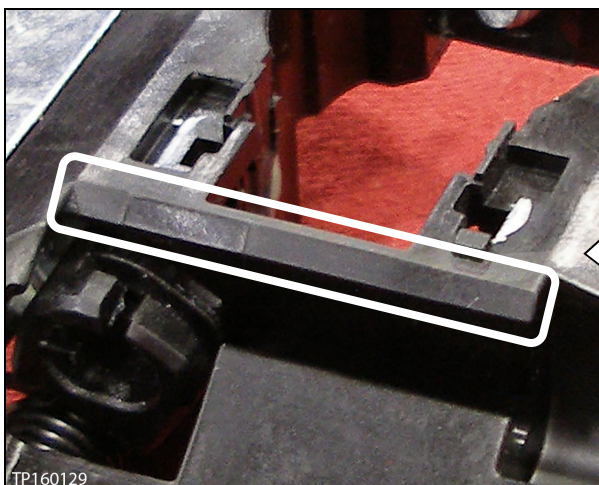

Figure 4
- b. Apply the vertical piece on the angled surface as shown in Figure 4 and 5.